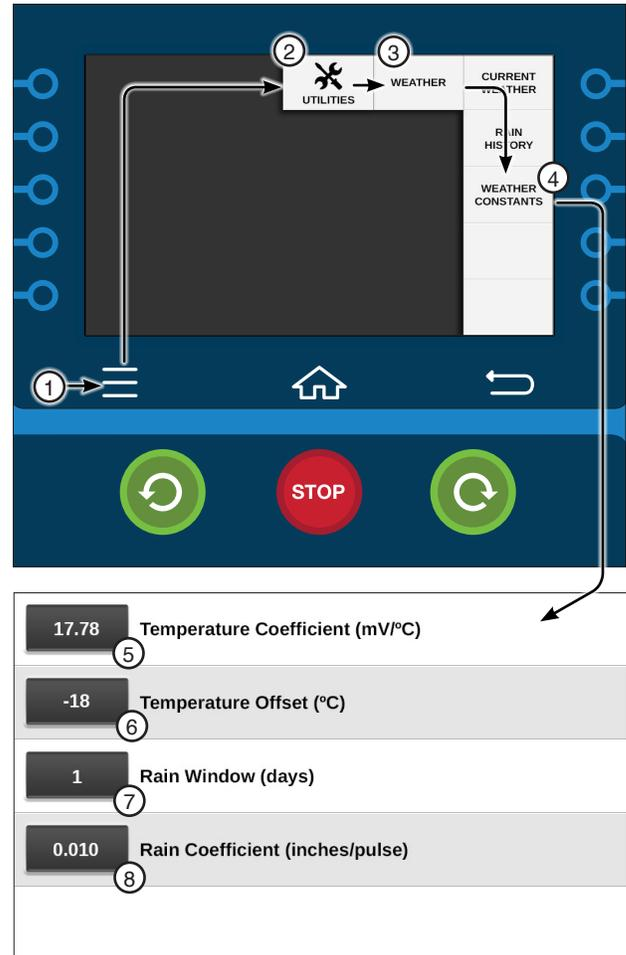

Figure 77-1 1. Menu 5. Temperature Coefficient
Push **Menu**, **Utilities**, **Weather** and **Weather Constants** to display the Weather Constants screen. Refer to Figure 77-1.
Example: to enter a negative number, push the **ABC** button, then push the **+/-** button and select **-**, then push the **123** button to return the numeric keypad and enter 1, 8, - for -18. Valid values are -500 - +500. The default value is -18. Refer to Figure 77-1.
2. Using the numeric keypad, enter the number of days (0 - 10). The default value is 1. Refer to Figure 77-1.
2. Using the numeric keypad, enter the Rain Coefficient Inches per Pulse (Rain Coefficient inches/pulses). Example: 1, 0 for 0.010. Refer to Figure 77-1.